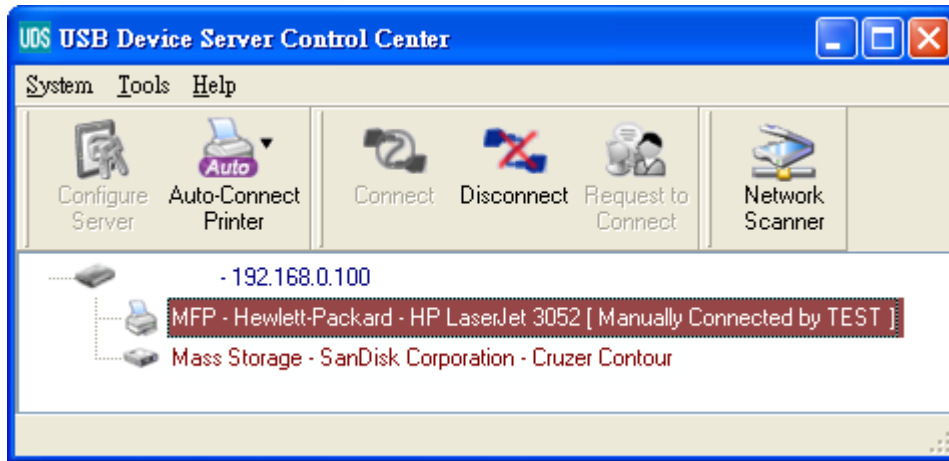

Figure 5 Device Connected
- Click the “Connect” button. Then the message “Manually Connect by your_computer_name” will be shown, as Fig 5.
- C. Click the “Connect” button. Then the message “Manually Connect by *your_computer_name*” will be shown, as Fig 5.